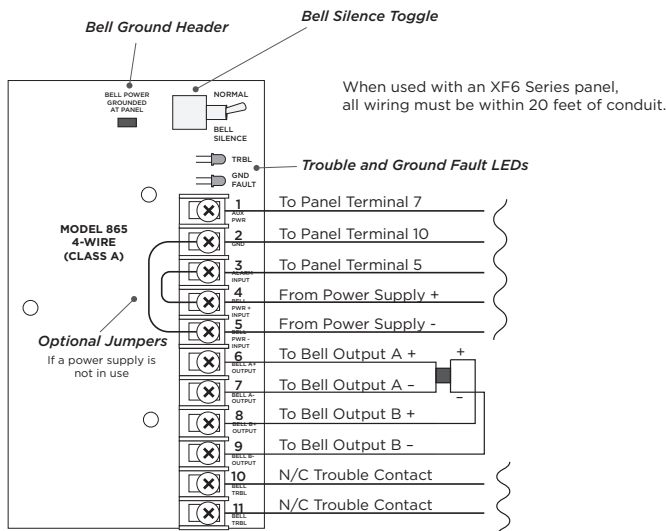
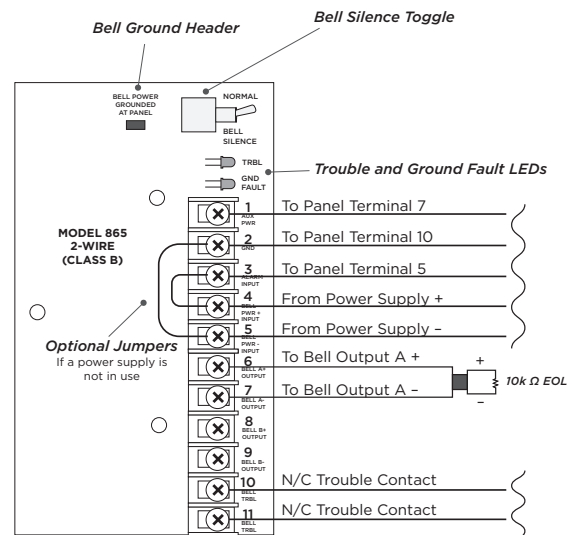

Figure 4: Class A Wiring Connections
Figure 3: Class B Wiring Connections
For power connections, use 22 AWG or larger wire. Refer to Figure 3 and Figure 4 when wiring the module.
7. For Class A connections, wire module Terminals 6-11 as shown in Figure 4. Trouble contacts are connected to a zone on the panel to indicate NAC trouble or ground faults. The common relay is rated 30 VDC @ 1 Amp, resistive.
8. For Class B connections, wire module Terminals 6-11 as shown in Figure 3. Install the included 10k Ohm EOL resistor across Bell Output A + and Bell Output A -.